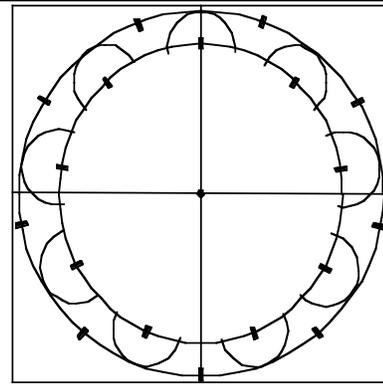

Fig. 4 – Draw circles centered at each inner circle mark that just touch the outer circle
10. Using a compass, at each of the marks on the inner circle, draw a circular arc that just touches the outer circle. (Fig 4.) This defines the outer edges of the scallops.